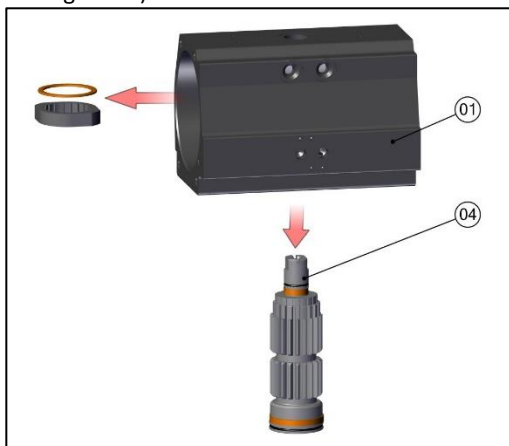

Fig No.20
- e) After removal of Washer (19) & Cam (05), Remove Pinion (04) completely from the bottom of Body (01) (refer Fig no.20)